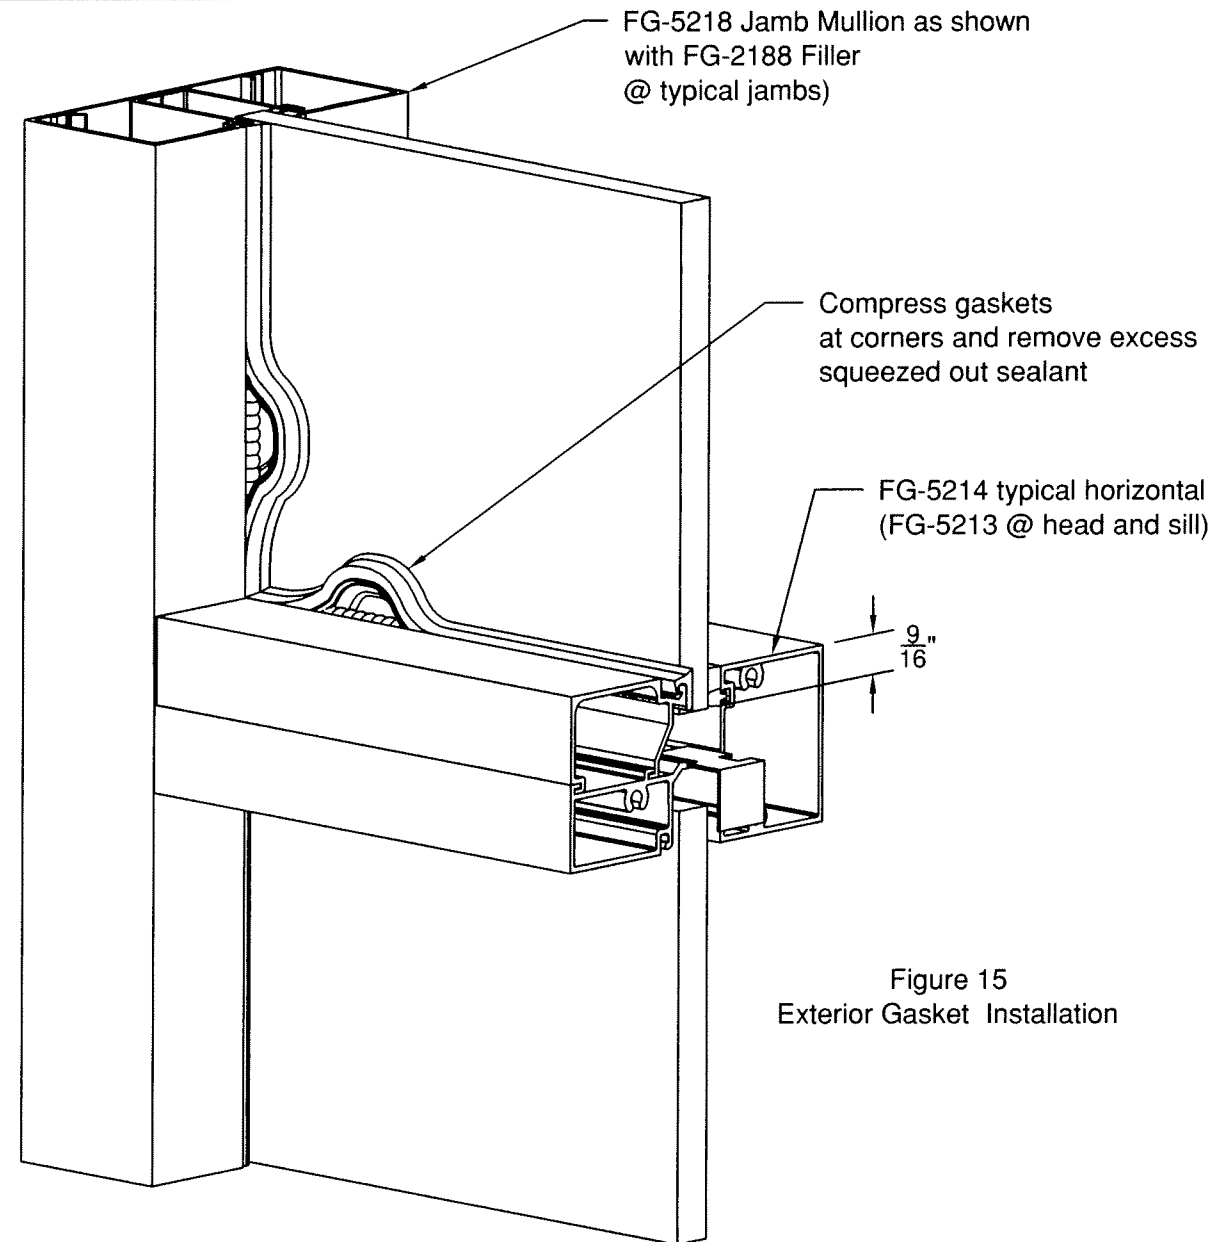

Figure 15
- 4.2.5 After gaskets are pressed in place. Pull gasket from pocket as shown in Figure 13 above. Clean glass and gaskets a minimum of 2" from each end with isopropyl alcohol. Apply Dow Corning® 795/995 sealant see Figure 14. Push gaskets into reglet, **See figure 15 on sheet 10.**